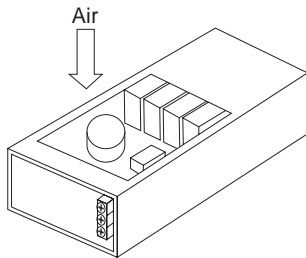

Fig.5.3 Image chart(-N)
- Cooling by user's fan, without built-in fan.(Refer to Fig.5.3)